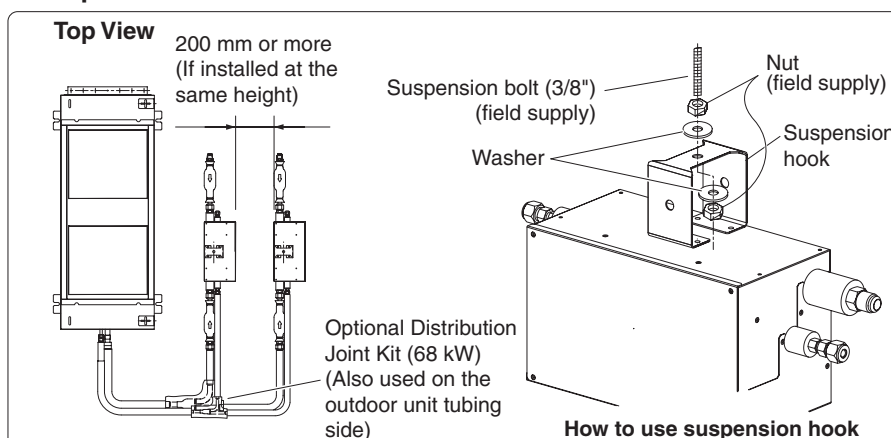

Fig. 2-312
For 22.4 kW (8 hp) and 28 kW (10 hp) units, use 2 RAP valve kits connected in parallel. (Refer to Fig. 2-312)
(2) Notes on Installation
- Install the valve body within **a distance of 30 m from the indoor unit** as shown in Fig. 2-312.